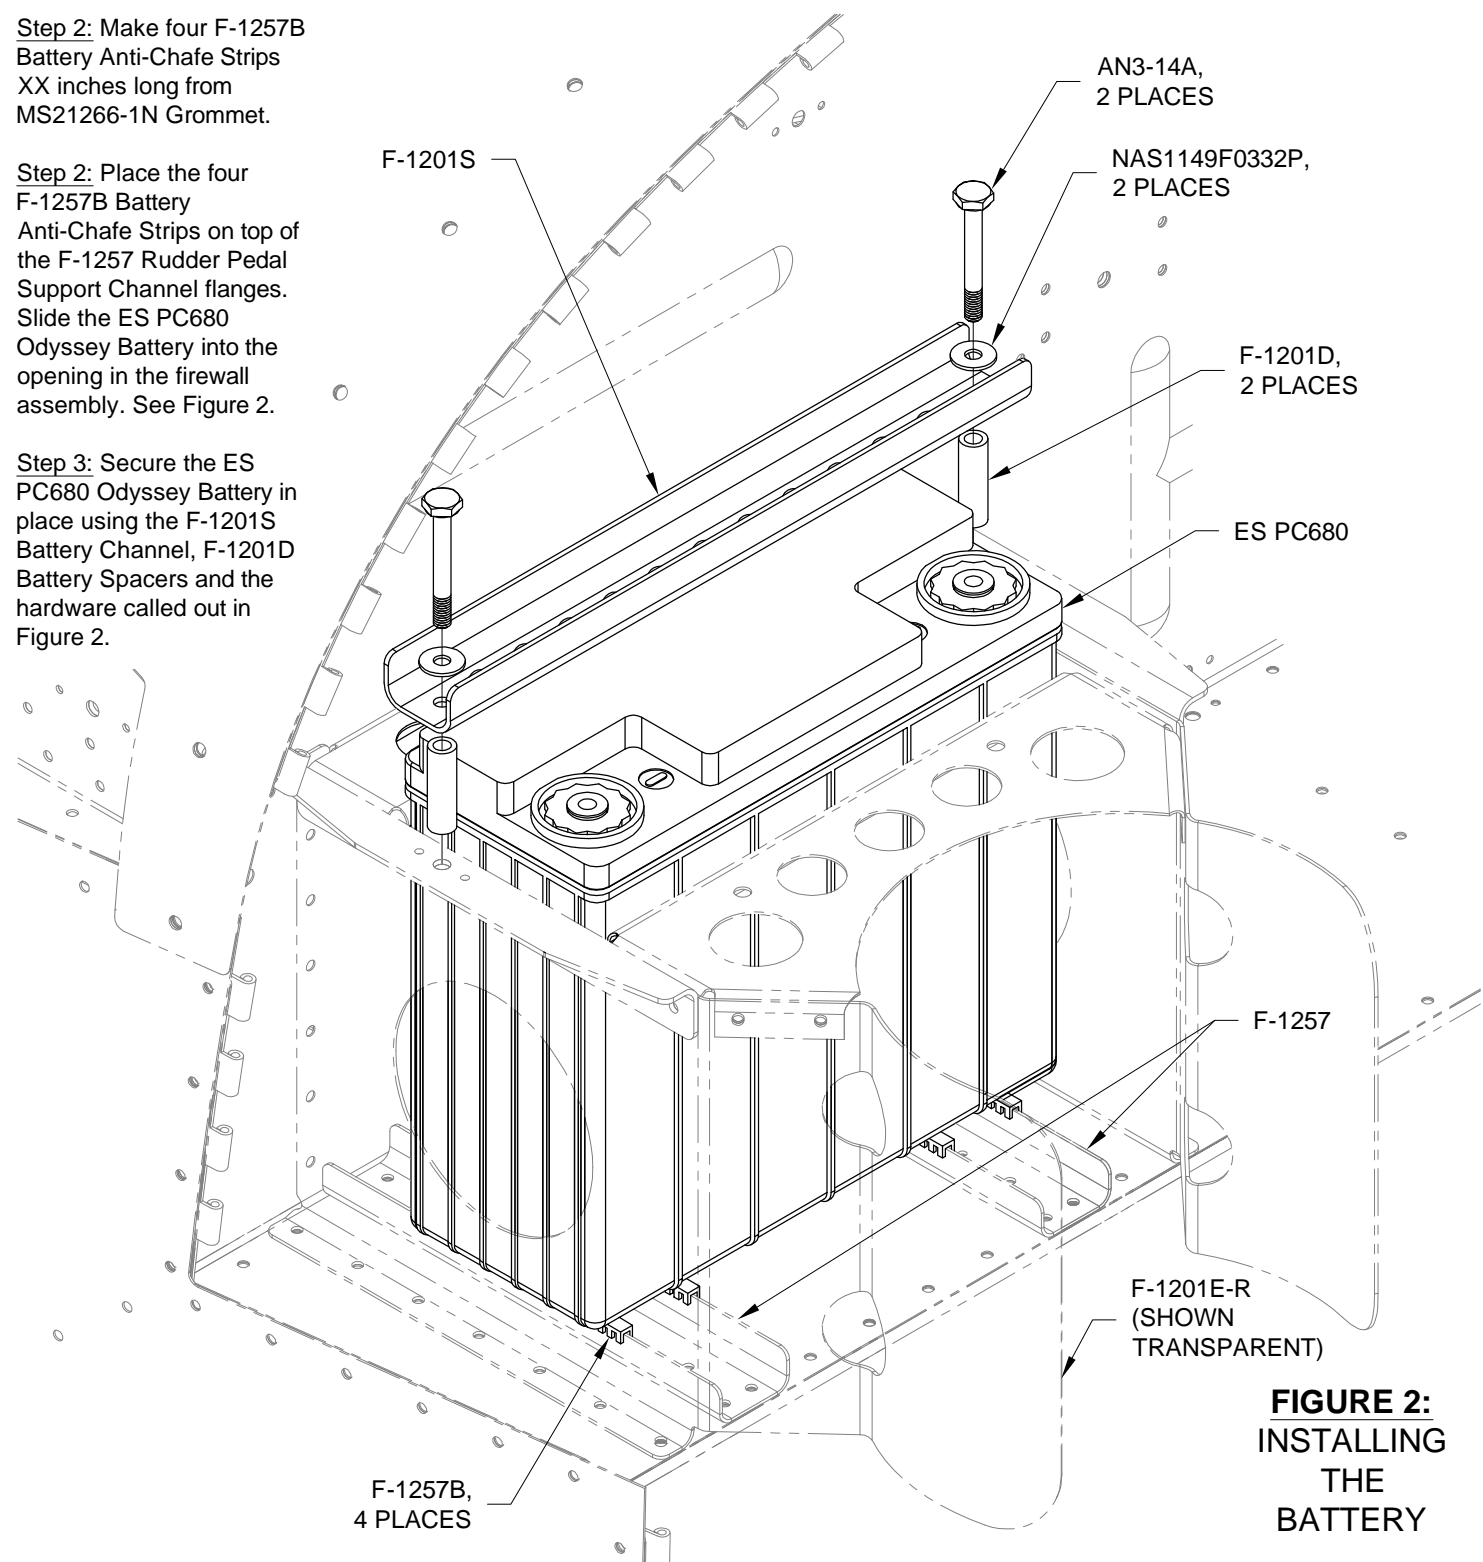

FIGURE 2: INSTALLING THE BATTERY
Step 2: Place the four F-1257B Battery Anti-Chafe Strips on top of the F-1257 Rudder Pedal Support Channel flanges. Slide the ES PC680 Odyssey Battery into the opening in the firewall assembly. See Figure 2.
Step 3: Secure the ES PC680 Odyssey Battery in place using the F-1201S Battery Channel, F-1201D Battery Spacers and the hardware called out in Figure 2.